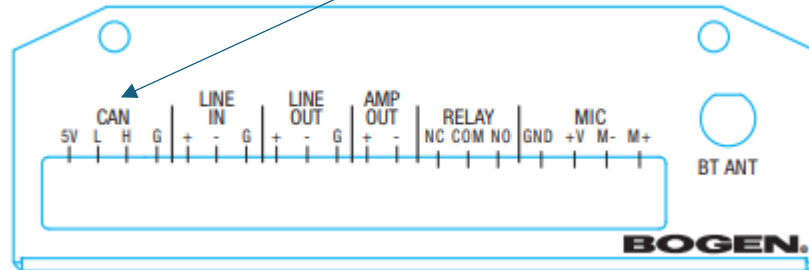
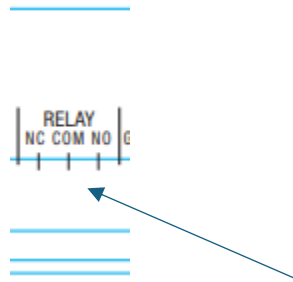

Figure 4: NQ-SER20P2 rear panel CAN connection
Figure 5: Relay Connections
3. To enable pairing the NQ-SEPMIC & NQ-SEHMIC Bluetooth microphones with the NQ-SER20P2 receiver, the NFC Pair point (NQ-SERPAIR) must be installed. To connect the NQ-SERPAIR to the NQ-SER20P2 use a 4-conductor wire. Connect 5V, CAN H (H), CAN L (L), GND (G) from the NQ-SER20P2 to the matching terminals on the NQ-SERPAIR (see Figure 4 & Figure 5 for connectivity).
4. The NQ-SER20P2 includes a Form C SPDT-type dry contact relay for controlling third-party devices. Relay rating is maximum voltage of 24VDC @ 2.0 A. (See Figure 5).